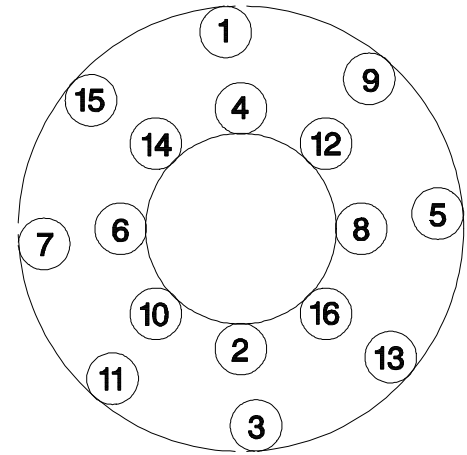

Figure 8
4.5.8 For each wear plate being replaced, follow the tightening sequence shown in Figure 8 for the first 16 screws. The remaining screws may be tightened in any reasonable crosswise pattern. See section 6.2 for illustrated part lists and Table 2 for tightening torque values.